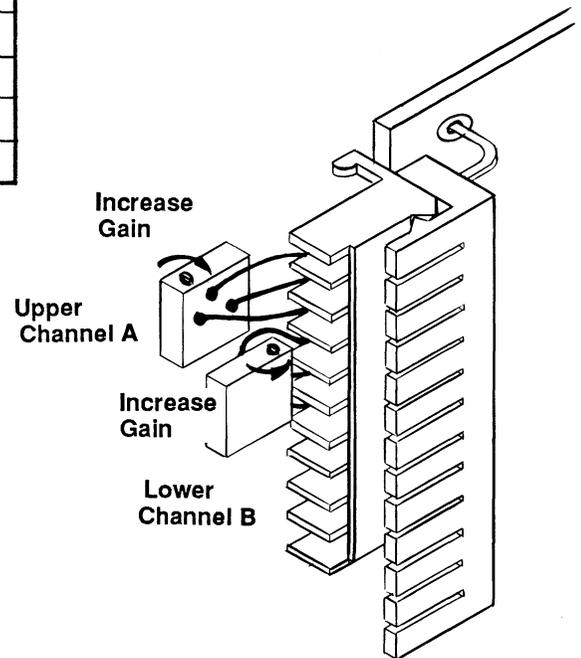

Figure 3-6 Gain Trimmer Detail
the MS 1000A. (See Figure 3-6.)
6) Referring to Figure 3-6, adjust the Channel A gain trimmer until the amplifier's output voltage accords with the table.